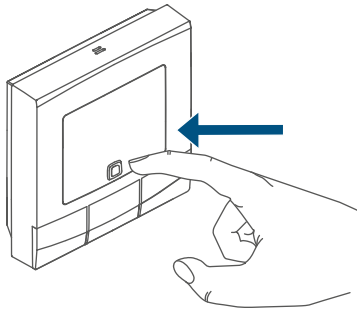

Figure 6
- Select the menu item "Add device"(see figure 6).
- Open the battery compartment (G) using a slotted screwdriver to loosen the wall mounting plate (→see figure).